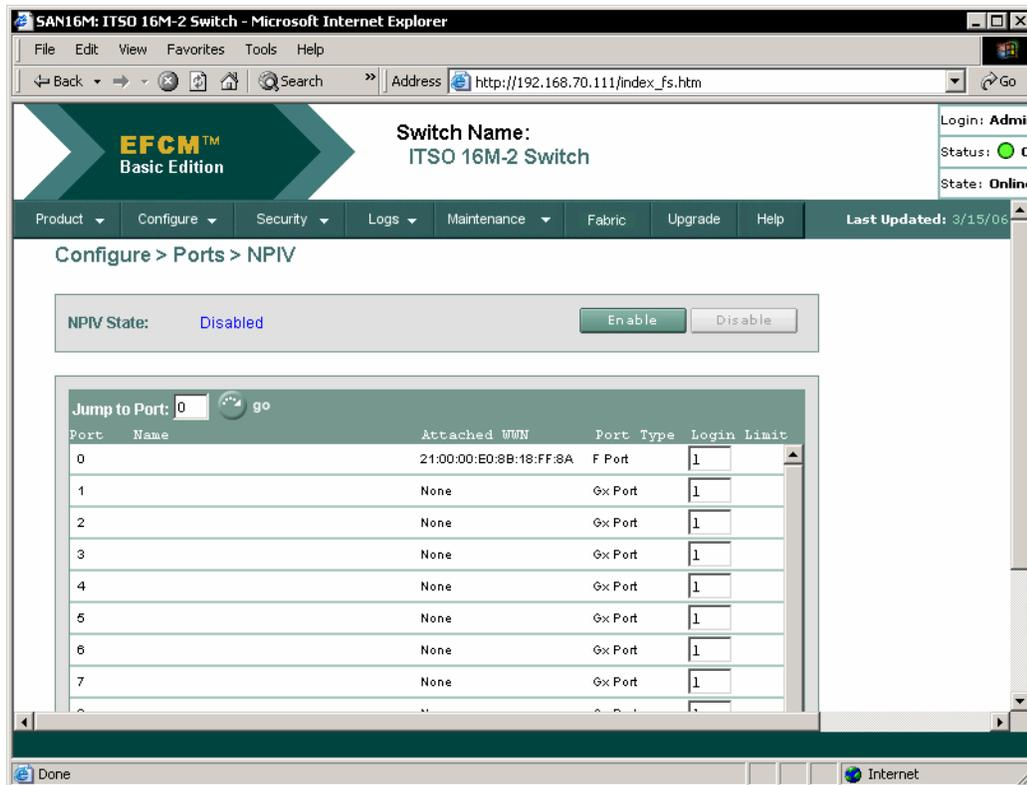

Figure 38 Ports - NPIV installed
- Once the NPIV PFE key is installed the NPIV view will reflect that ports are accessible, as in Figure 38 on page 35.